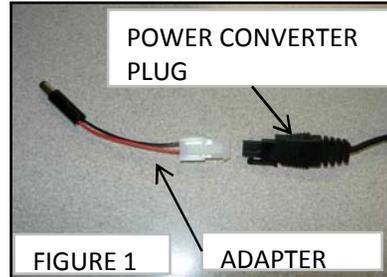

FIGURE 1
1. If applicable, connect the Adapter Harness to the end of the Power Converter as illustrated in Figure 1. Note: Other recommended Power Converters may be pre equipped with proper connector as illustrated in Figure 2.